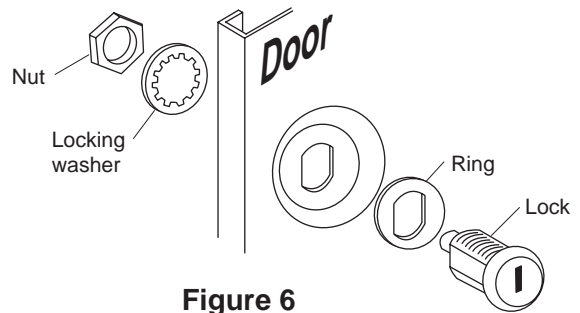

**Figure 4**
With the front and back flanges on the outside of the cabinet and the side flanges on the inside of the cabinet, assemble with (10) carriage bolts, lock washers and nylon locking nuts. (See figure 4)